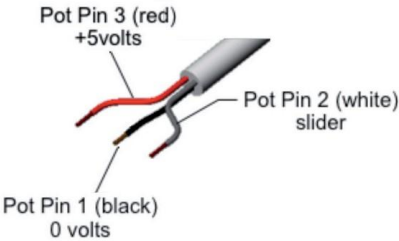

Fig C2 - RFB cable connections
- i) Connect the RFB Module wires to autopilot junction box - refer to Figs C2 and C3 for the correct wiring color connections for common autopilot brands.